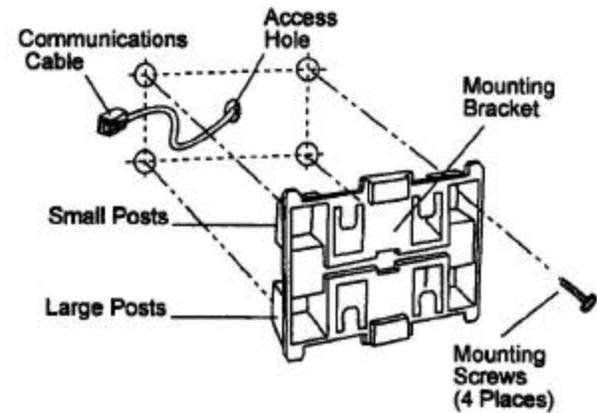

Figure 10: Mounting Bracket Installation
2. Install the mounting bracket on the wall. Refer to Figure 10.